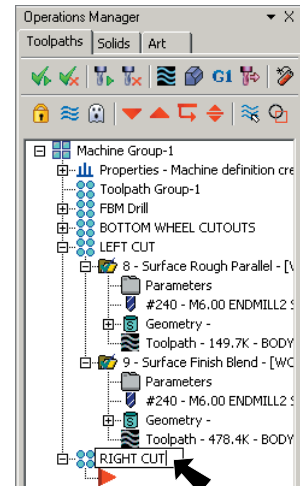

Fig. 99
Step 2. Rename the new Toolpath Group to **RIGHT CUT**, **Fig. 99**.